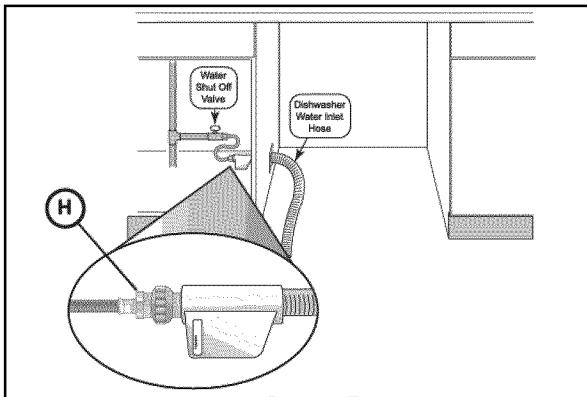

Figure 9
Install an easily accessible shut-off valve (not supplied) in the hot water supply line, as shown in **Figure 9**. All solder connections must be made before the water line is connected to the dishwasher.
1. Assemble the water supply adaptor fitting (H) from the parts bag onto the dishwasher water supply hose. This connection does not require Teflon brand tape
- NOTE: The end of the dishwasher water inlet hose is heavy and will need to be supported. It is best to lay the end on the cabinet floor as shown in Figure 9.*